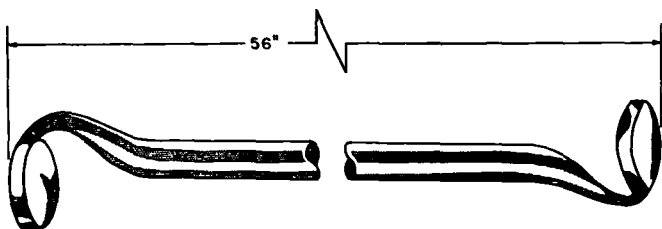

Figure 31. The miner's spoon.
d. Miner's Spoon. The miner's spoon (fig. 31) is a slender metal rod with ends forged into small pans at right angles to the rod. These pans or bowls are $1\frac{5}{16}$ inches in diameter. The miner's spoon is used for lifting material out of small diameter deep holes, such as those made by the rock drill.